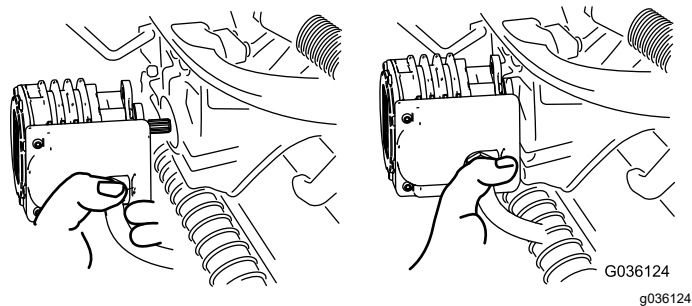

Figure 61
4. Move the motor to the storage location on the front of the suspension arm (Figure 61).